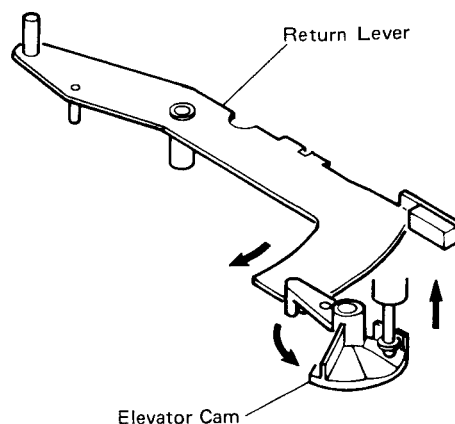

Fig. 4
1. When the main gear starts to rotate at the end of playing, the return lever rotates under the action of the main gear cam to press the elevator cam. The upward movement of the elevator cam is directly converted into movement of the elevator, lifting up the tonearm. (Fig. 4)